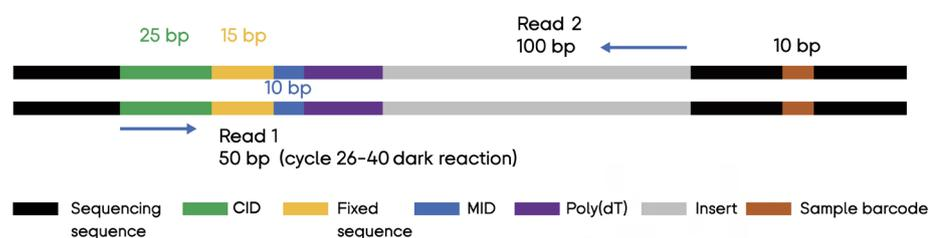

Figure 4. Stereo-seq Transcriptome Library Construct
- j. Take **1  $\mu$ L** of purified PCR product and measure the concentration with Qubit dsDNA HS Kit. Use Bioanalyzer, TapeStation (Agilent Technologies), LabChip® GX, GXII, GX Touch (PerkinElmer), Fragment Analyzer(TM) (Advanced Analytical) or other equipment based on the principle of electrophoretic separation to detect the fragment distribution of the purified PCR products. The main peak of fragment distribution is required to be 200-600 bp (Figure 4). Normally the PCR yield is higher than 100 ng.
This chapter introduces the compatible sequencing instruments and sequencing reagents for the Stereo-seq system. The library construct is illustrated in Figure 4.